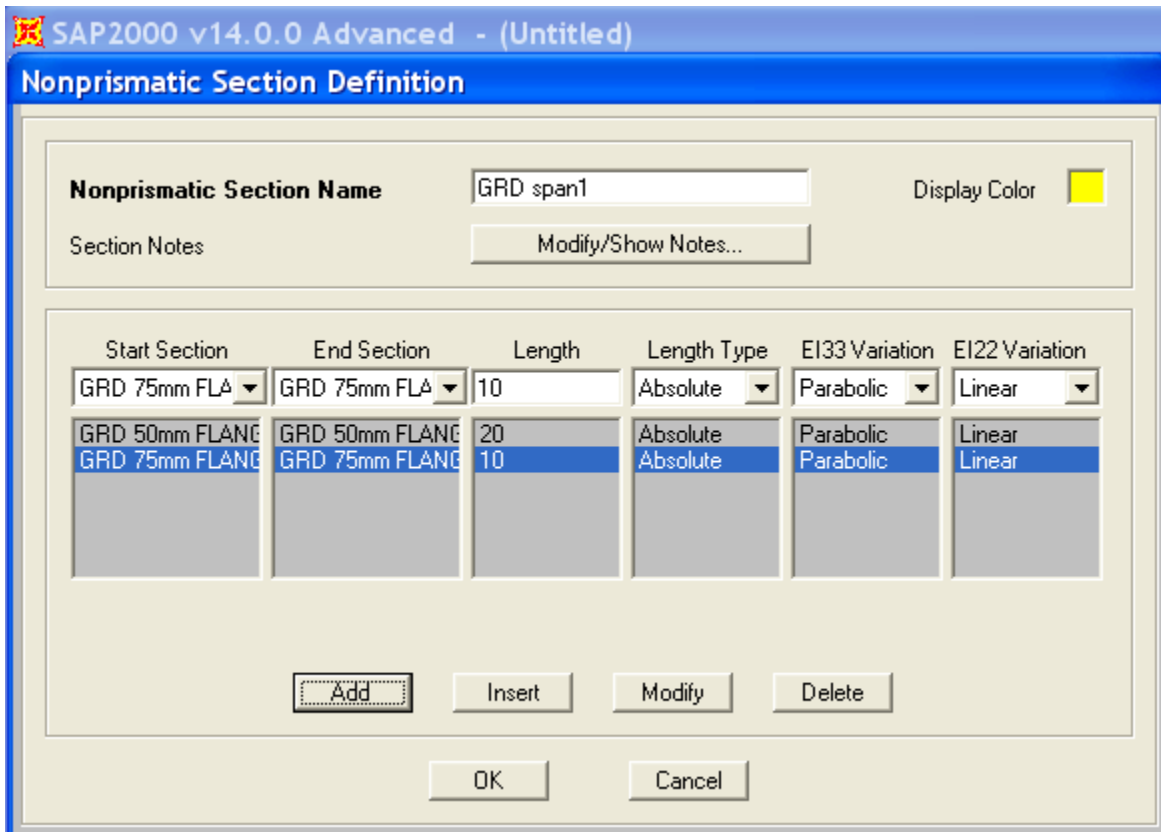

Figure 1 - Section definition
- Select Add New Property > Frame Section Property (other) > Non-prismatic Section to create non-prismatic sections 'GRD span1' and 'GRD span2' as follows: (1) for 'GRD span1', specify the 'GRD 50mm Flange' section for the first 20m of length, and the 'GRD 75mm Flange' section for the next 10m of length; (2) for 'GRD span2', specify the 'GRD 75mm Flange' section for the first 10m of length, and the 'GRD 50mm Flange' section for the next 20m of length. This process is shown in Figure 1: